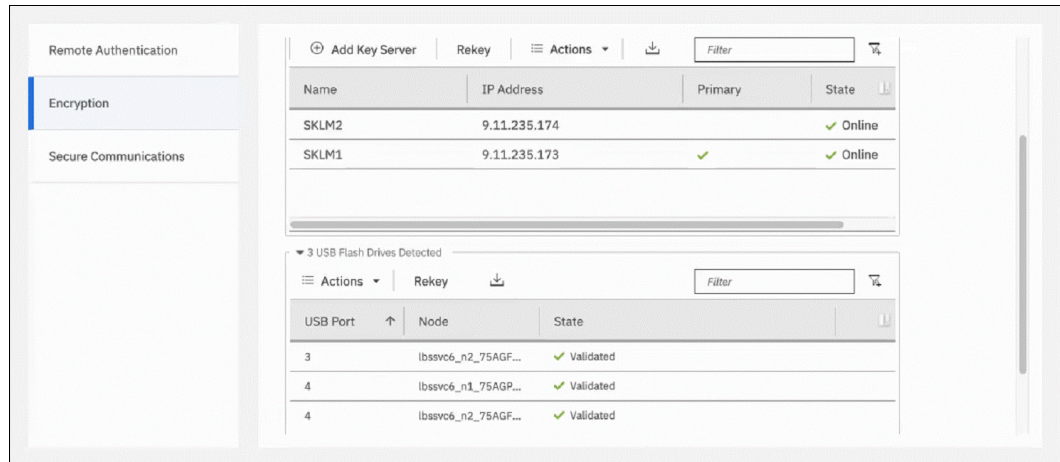

Figure 12-52 Encryption that is enabled with two key providers available
4. You can confirm that encryption is enabled and verify which key providers are in use by selecting **Settings** → **Security** → **Encryption**, as shown in Figure 12-52. Note the **Online** state of key servers and **Validated** state of USB ports where USB flash drives are inserted to make sure that they are properly configured.